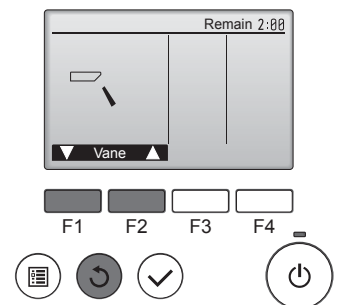

Fig. 7-7
- ① Check the auto vane with the [F1] [F2] buttons. (Fig. 7-7)
- ② Press the button to return to "Test run operation".
- ③ Press the button.